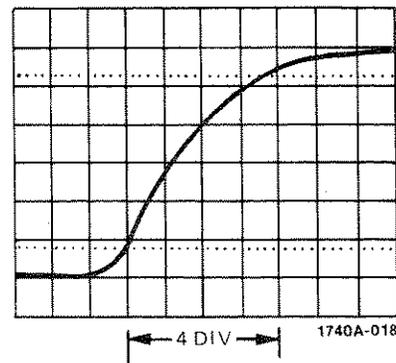

Figure 15. Rise Time Measurement
**Example:** Assume the number of divisions between the 10% and 90% points is four and the MAIN TIME/DIV setting is 2  $\mu$ SEC (see figure 15).